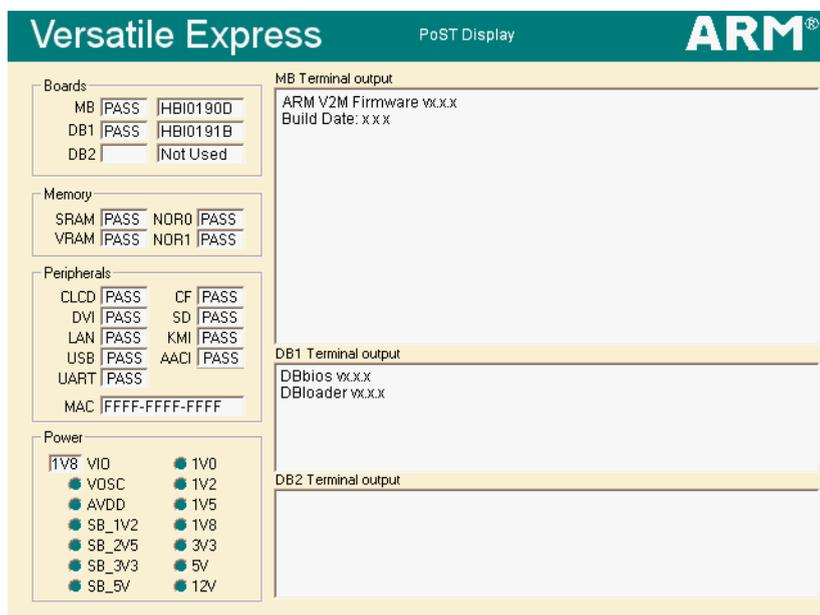

Figure 3-2 Power-on self test screen
- c. For daughterboard FPGAs, the image is transferred over the *Configuration Bus* (CB) to a Daughterboard Configuration Controller on the daughterboard that programs the image into local configuration memory.
15. The power-on self-test is complete, and the POST screen in Figure 3-2 is displayed on the DVI-I interface. The USB MSD is enabled.